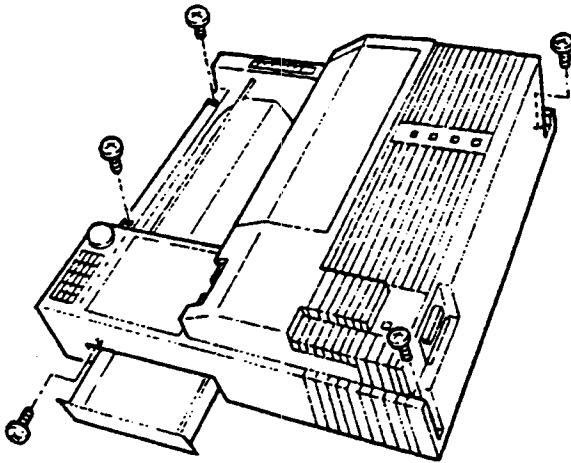

Figure 6.30
- (3) Turn the power switch OFF, using a Phillips screwdriver, remove total of five screws - two on recorder front, two on recorder rear and one on the right side panel (See Figure 6.30).